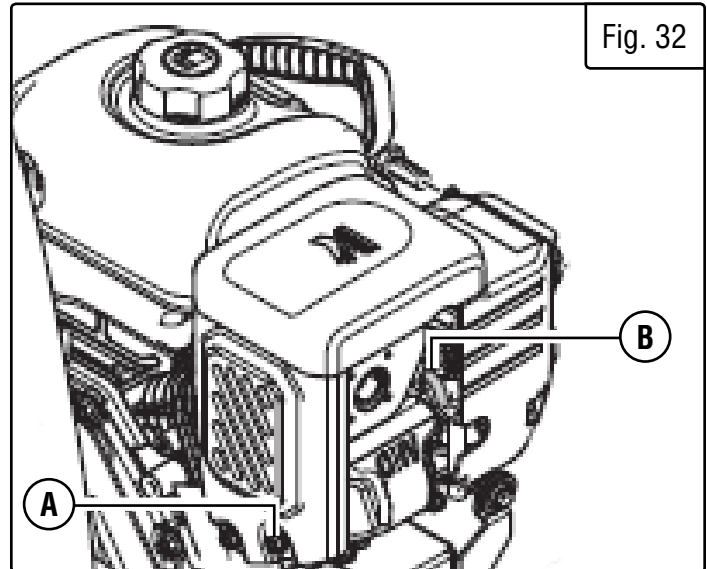

Fig. 32
1. Gently pull on the spark plug boot (Fig. 32 - B) to remove it. Be careful not to tear insulation or wire.
2. The carburetor can be accessed from the left side of the snow blower, next to the cylinder head cover. To drain the carburetor, open up the carburetor drain screw (Fig. 32 - A) with a Phillips-head screwdriver and drain out any gasoline that has built up inside.